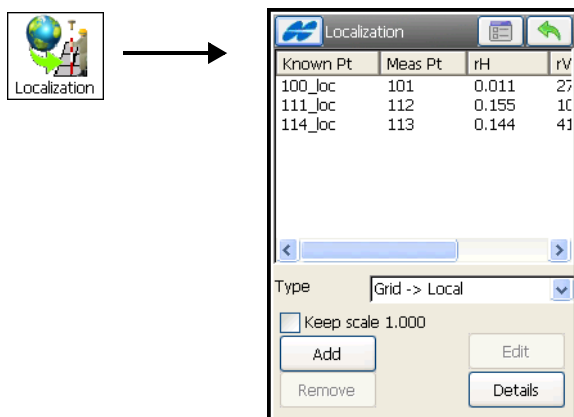
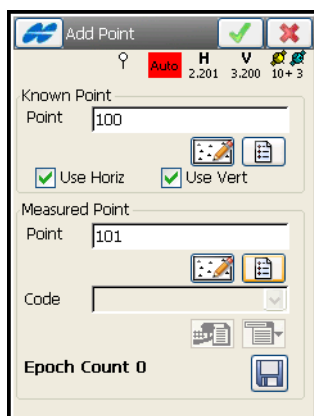

Figure 8-8. Localization
Figure 8-10. Add Localization Point
The **Localization** screen (Figure 8-8) contains a list of points used for localization, called control points. Their coordinates are known in both systems: original and local. Each point has a level of reliability specified with the values of the residuals along the horizontal and the vertical axes and the Control parameters, that shows the status of the point. The horizontal and vertical use of any control point can be changed by selecting the line and then tapping on the header of the H Control or V Control. This toggles the display between “yes” and “no”. Double-tapping on the selecting line opens the Add Point screen that also allows changing the horizontal and vertical use (see Figure 8-10 on page 8-12).
- **Add** – opens the **Add Point** screen (Figure 8-10 on page 8-12) to add a point pair to use in localization. The localization is updated (recomputed) every time a new pair is added to the localization.
The *Add Point* screen (Figure 8-10) contains the coordinates of the control points.